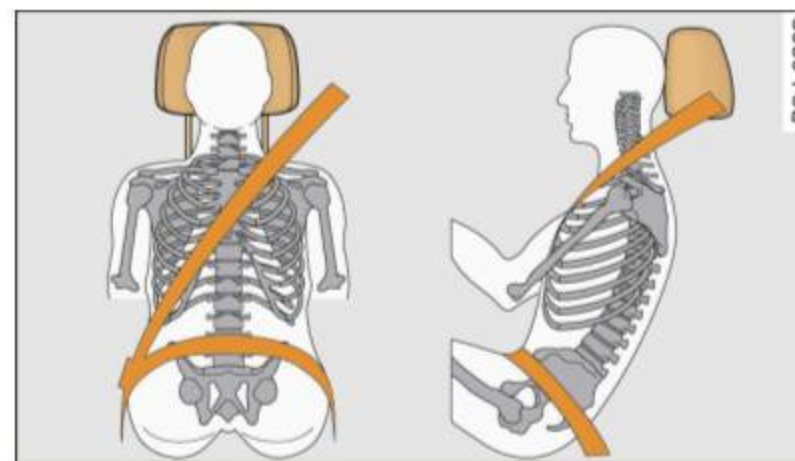

Fig. 169 Head restraint and safety belt position as seen from the side
- The safety belt must lie flat and snug on the occupant's upper body ⇒ fig. 169. Pull on the belt to tighten if necessary.
- The lap belt portion of the safety belt must be positioned as low as possible across pelvis and never over the abdomen. Make sure the belt lies flat and snug ⇒ page 168, fig. 169. Pull on the belt to tighten if necessary.